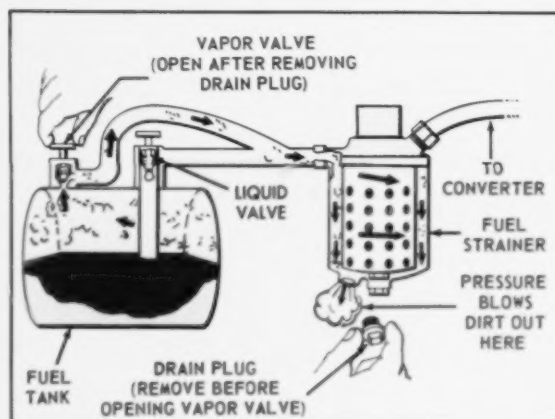

Fig. 25—Cleaning LP-Gas Fuel Strainer
1. Close liquid and vapor valves at fuel tank (see Fig. 25).
2. Remove the drain plug from the strainer (Fig. 25).